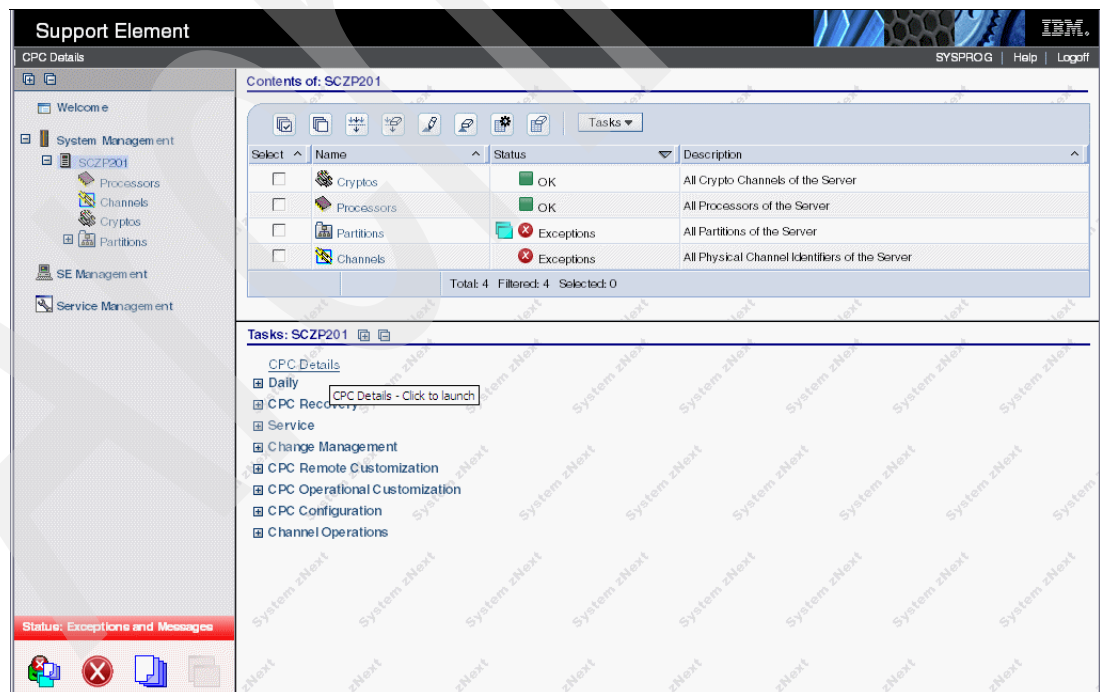

Figure 8-5 SE - Contents and Tasks area of CPC
- From the Systems Management section on the left side of the panel, locate and click CPC. The right-hand panel displays Contents and Tasks areas for that CPC (Figure 8-5).